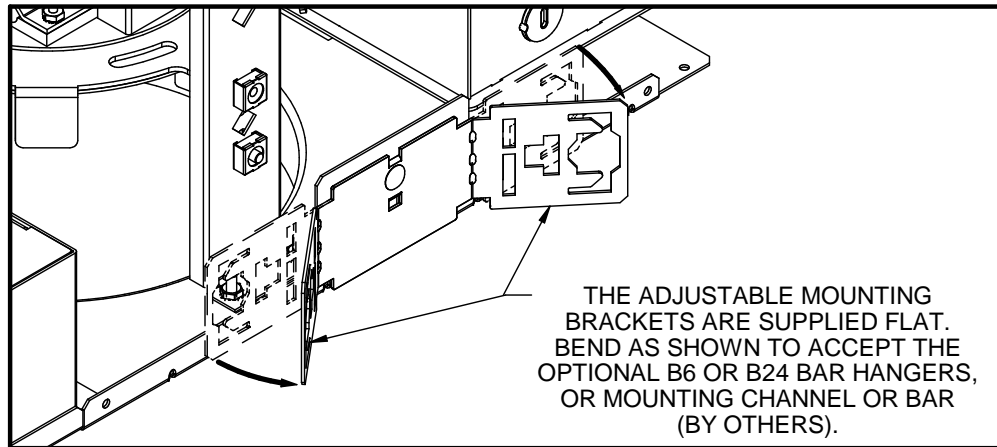

FIG. 1
2. Bend the adjustable mounting brackets as shown in **FIG. 1**. Install the fixture in the ceiling using B24 or B6 bar hangers, or using mounting channel or bar (by others) placed in the adjustable mounting brackets. Mount the fixture so that the weight of the fixture is safely and securely attached and supported by the building structure using the bar hangers, mounting channel, and/or hanger wires, or as required by local code. Do not support the fixture by attaching it to the ceiling alone.